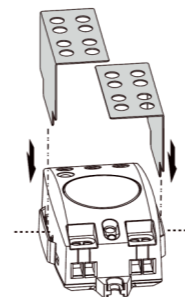

Bild 3
4.2.1 Fixing metal shield: insert the metal shield into the groove of housing (See FIG.3).